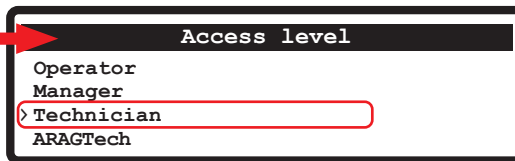

Fig. 47
- Select the user level for which you want to delete the PIN (symbol > Fig. 47) and press and hold the button ▶.